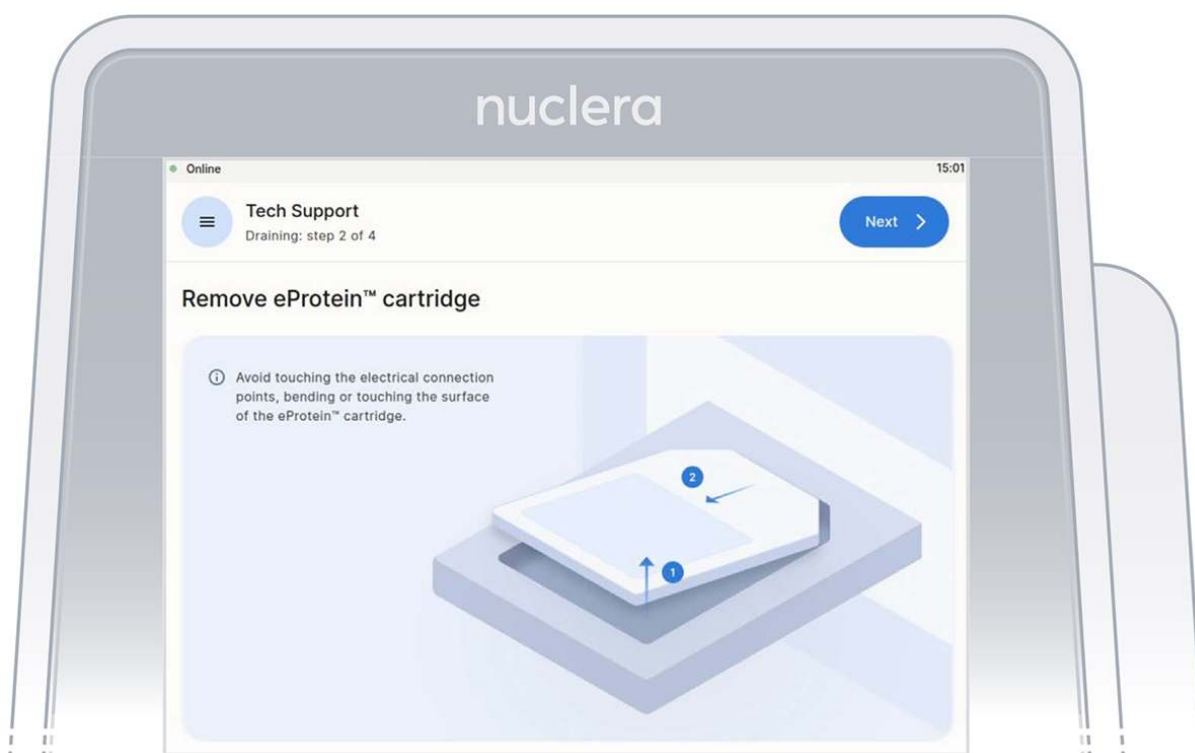

Figure 31: Remove the cartridge from the instrument
1. Remove the cartridge from the instrument drawer by lifting it as shown on the screen and place it in its original packaging. Press the [Next] button (Figure 31).